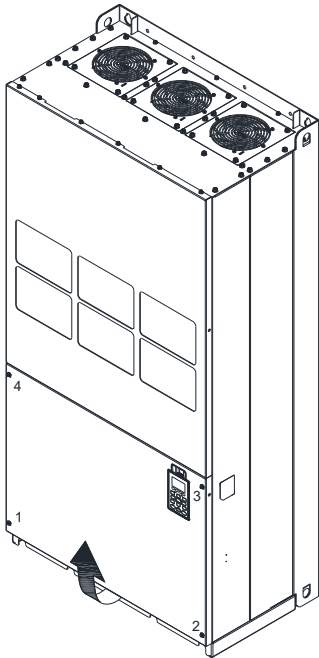

Figure 1
- 1. Loosen the screw 1-4 and remove the top cover (figure 1)